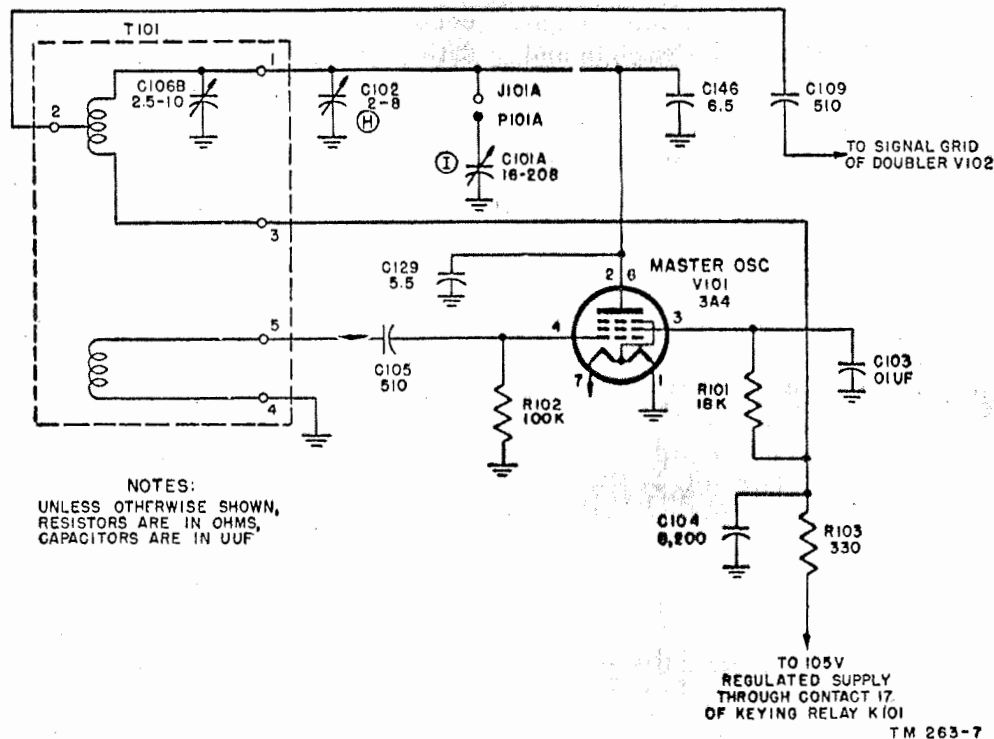

Figure 67. Transmitter master oscillator, simplified schematic.
92. Master Oscillator (Noncrystal-controlled Tube V101, Tube Type 3A4) (fig. 67)